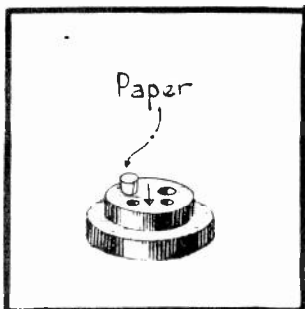

Fig. 1
3. - REMOVE THE R.F. TUBE PRECEDING THE DETECTOR AND INSERT A PIECE OF PAPER INTO ONE OF THE FILAMENT HOLES OF THIS TUBE'S SOCKET, AS SHOWN IN FIG. 1, SO THAT ONE FILAMENT PRONG OF THE TUBE WILL BE INSULATED FROM THE SOCKET CONTACT WHEN THE BULB IS AGAIN INSERTED, THUS PREVENTING THE FILAMENT FROM BURNING.